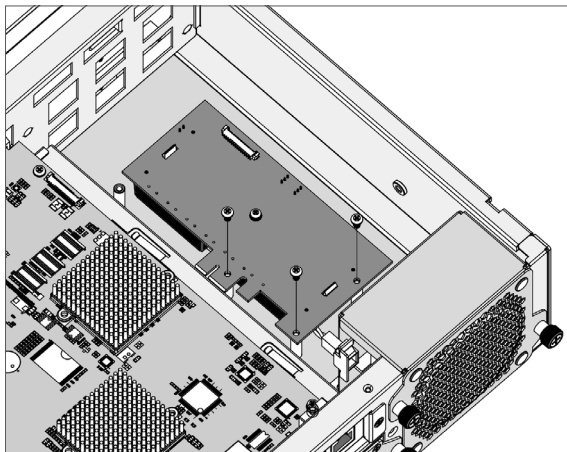

Figure B-7, Secure the Battery Module
2. After removing the cover, then secure the battery pack module (ARC-1883-BAT/CAP, reference NO.1 and NO.2 in Figure B-5) in the bottom of the enclosure (for ARC-8050T3-12R), as shown in Figure B-7.